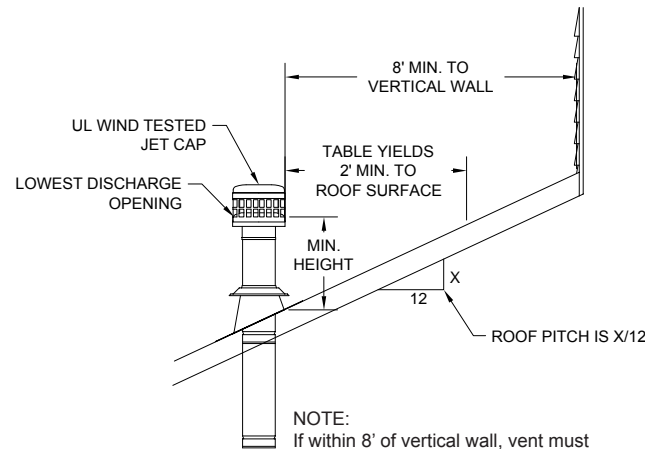

FIG. 3
3. Metal-Fab's wind-tested vent cap (PRC) is permitted to terminate in accordance with **Fig. 3** (Chart and drawing) provided it is at least 8 feet from a vertical wall.